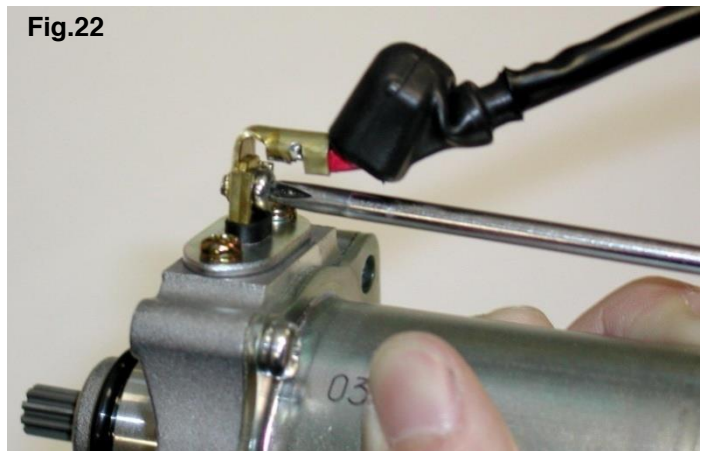

Fig.22
- CONNECT THE INPUT WIRING TO THE STARTER WITH THE SCREW M4 (see Fig.22).